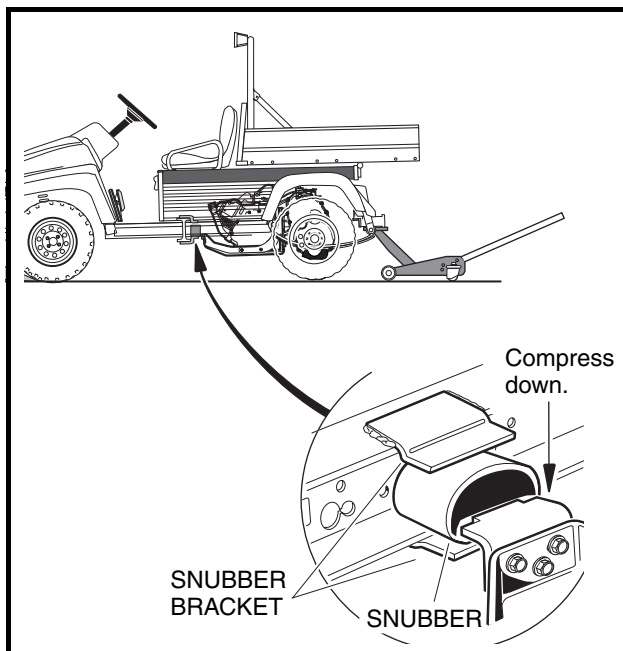

Figure 19 Compress Snubber Downward
9. Place a floor jack under the rear receiver hitch where the hitch and body frame are fastened. Lift the vehicle body slightly, allowing the front of the engine to tilt slightly downward. This will allow the oil filter more clearance under the electrical component box (**Figure 19**).